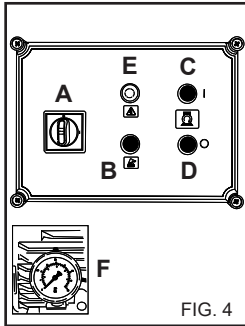

FIG. 4
- 4) Press the start button (C (Fig. 4)).